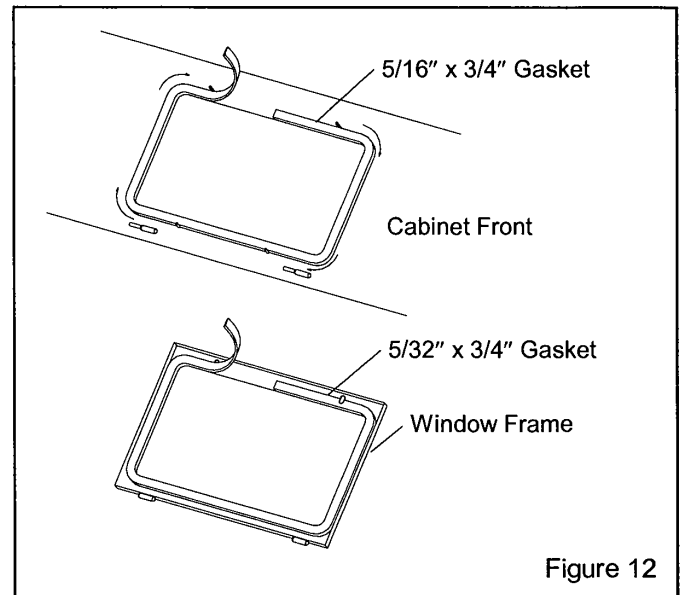

Figure 12
7.4 Window Gasket Replacement, Figure 12
7.4.4 Peel a short section of adhesive backing from the 5/16" thick strip, and adhere the gasket to the center of the top edge of the window opening as shown in Figure 12. Peel additional backing as needed, and work the strip around the radius of each corner, pressing it tightly to bond. Trim the gasket to fit and compress the ends to seal.